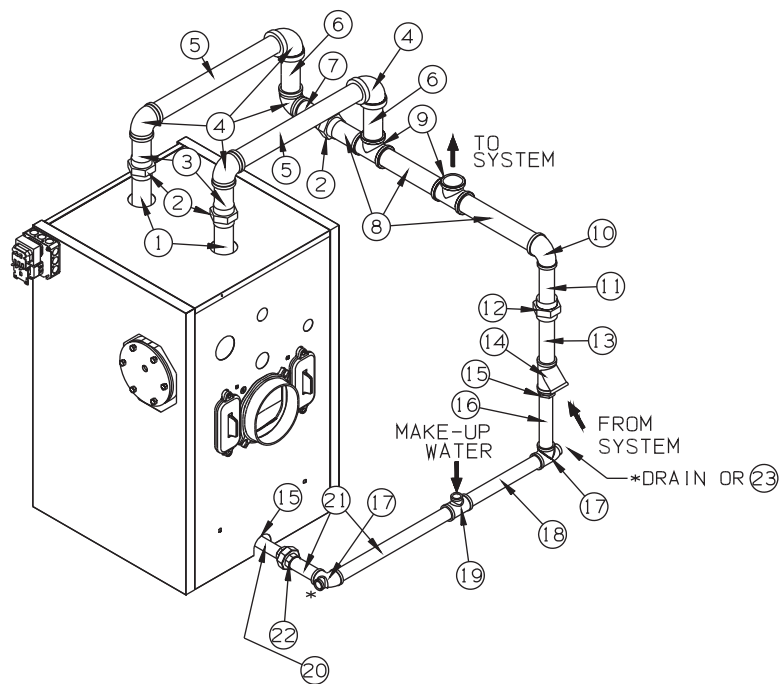

FIGURE A.2: Dropped Header Gravity Return Diagram for FSZ080, FSZ100 and FSZ130
- 1) Assemble Dropped Header Gravity Return Piping Kit for the FSZ080, FSZ100 and FSZ130 as shown in Figure A.2.